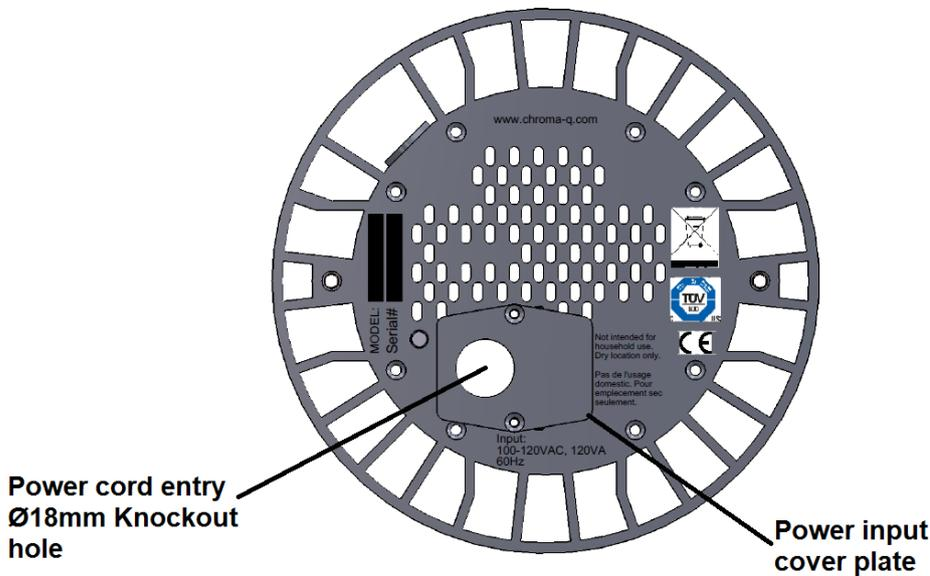

Figure 1: Bottom View of the fixture
1. There is a Power Input Cover Plate provided with the fixture (Figure 1), and is not attached to the fixture. The Power Input Cover Plate must be mounted as described in the following steps.